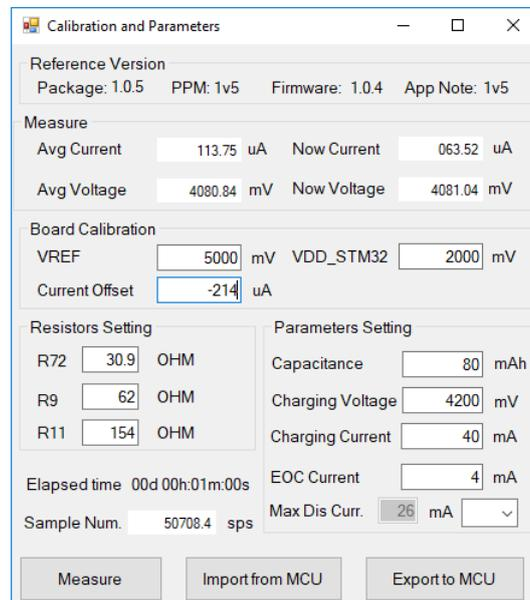

Figure 16: Measure Current Offset and Enter Values
4. Enter the value in the **VREF Voltage** field, see Figure 16.
3. Enter the value in the **VDD\_STM32 Voltage** field, see Figure 16.